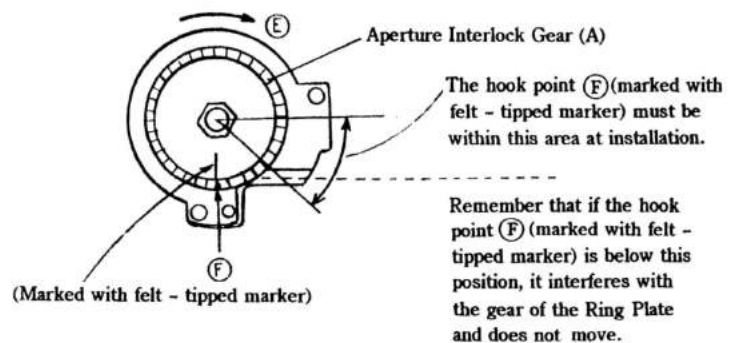

Fig. 36
- 4) Turn the hook point (F) (marked with a felt - tipped marker) of the spiral spring on the Aperture Interlock Gear (A) of the Aperture Code Ass'y (1AMG0600) by about 300 degrees in the direction of the arrow (E). With the hook point in this position, install the Aperture Code Ass'y in the Mirror Box and tighten the Aperture Code Ass'y Setscrews (61913026) \times 2. (See Fig. 36)